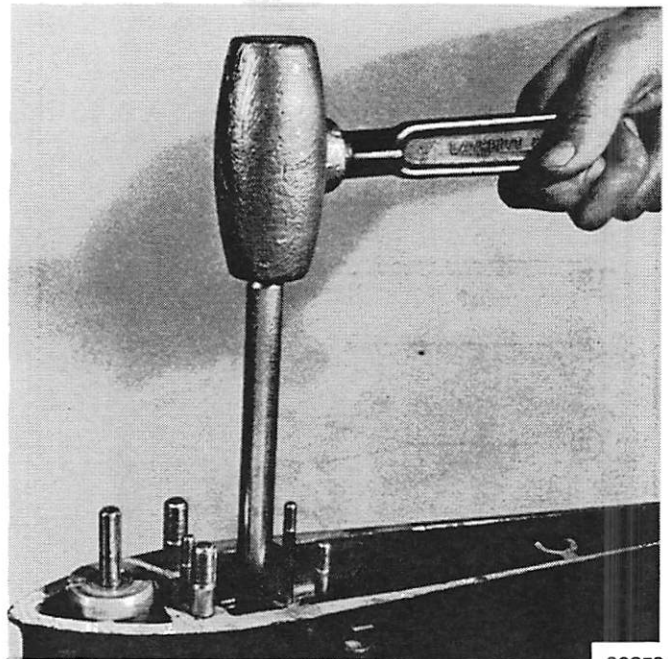

Figure 4. Removing Drive Shaft Needle Bearing from Gear Housing
3. Press bearing out with arbor press or tap on tool with heavy mallet to remove bearing. (Figure 4)